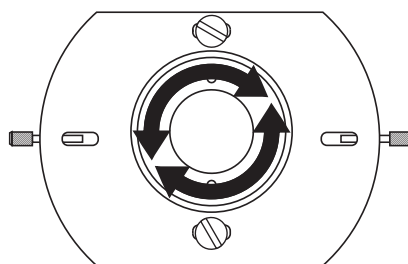

fig.5
6. **(Fig.5)** Use the large centre brass ferrule to align the lamp vertically with respect to the optical group.